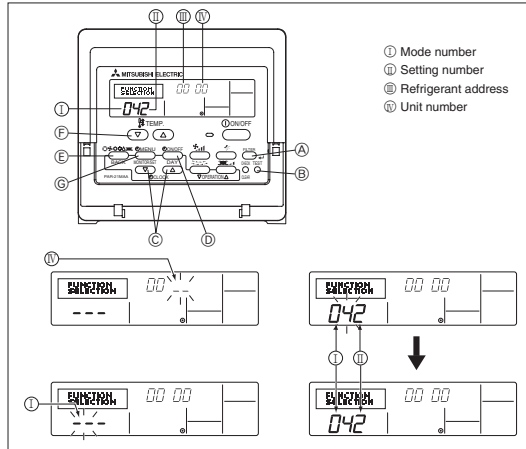

Fig. 6-6
6.3.1. Function setting on the unit (Fig. 6-6)